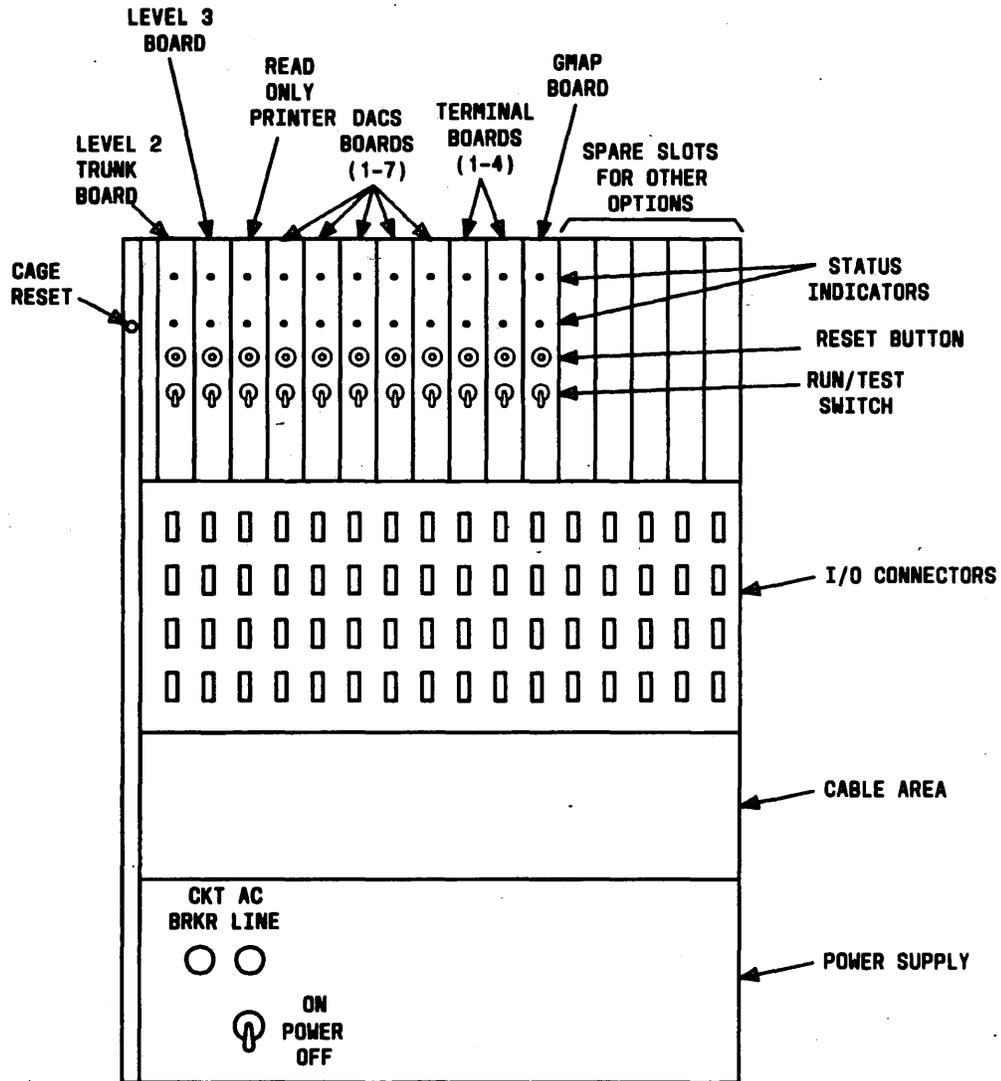

Fig. 4—DCO-PNI Front View
10. Slide each DCO-PNI circuit card into place (see Fig. 4). Do not seat the cards at this time. Leave 1-1/2 inches of circuit card extending from the card cage at this time.
1. Verify that the power switch on the left front of the DCO-PNI is in the off position. (See Fig. 4.)